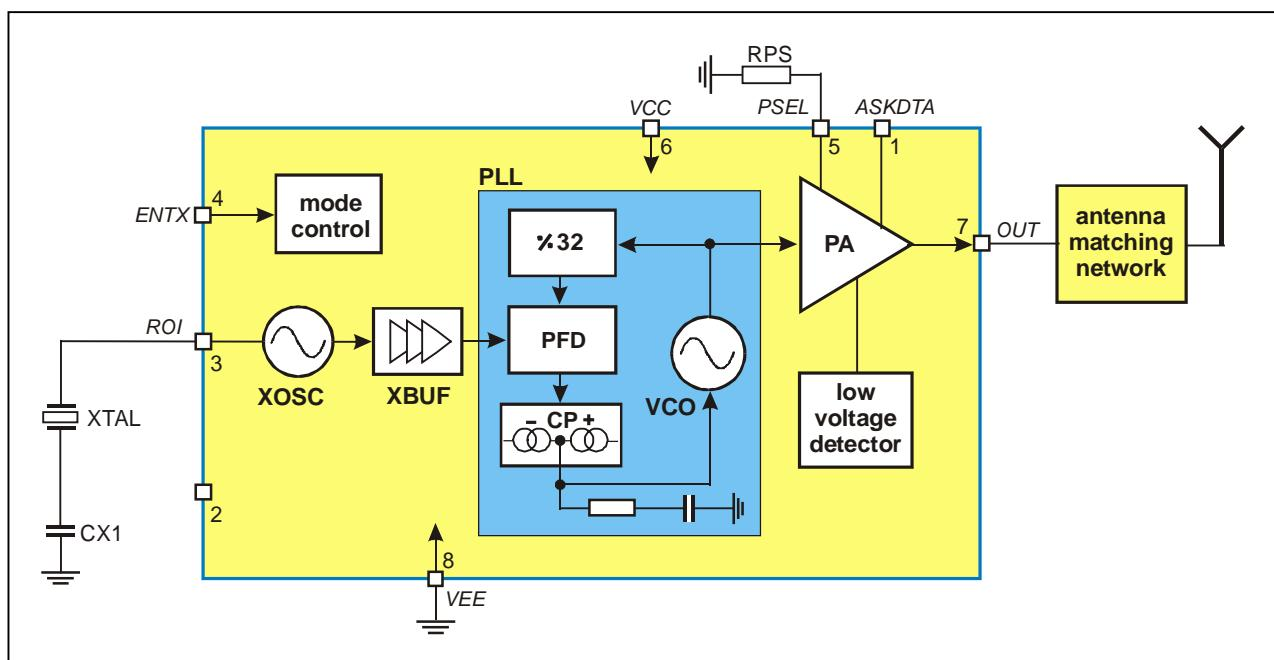

Fig. 1: Block diagram with external components
As depicted in Fig.1, the TH72012 transmitter consists of a fully integrated voltage-controlled oscillator (VCO), a divide-by-32 divider (div32), a phase-frequency detector (PFD) and a charge pump (CP). An internal loop filter determines the dynamic behavior of the PLL and suppresses reference spurious signals. A Colpitts crystal oscillator (XOSC) is used as the reference oscillator of a phase-locked loop (PLL) synthesizer. The VCO's output signal feeds the power amplifier (PA). The RF signal power P_{out} can be adjusted in four steps from $P_{out} = -11$ dBm to $+10$ dBm, either by changing the value of resistor RPS or by varying the voltage V_{PS} at pin PSEL. The open-collector output (OUT) can be used either to directly drive a loop antenna or to be matched to a 50Ω load. Bandgap biasing ensures stable operation of the IC at a power supply range of 1.95 V to 5.5 V.